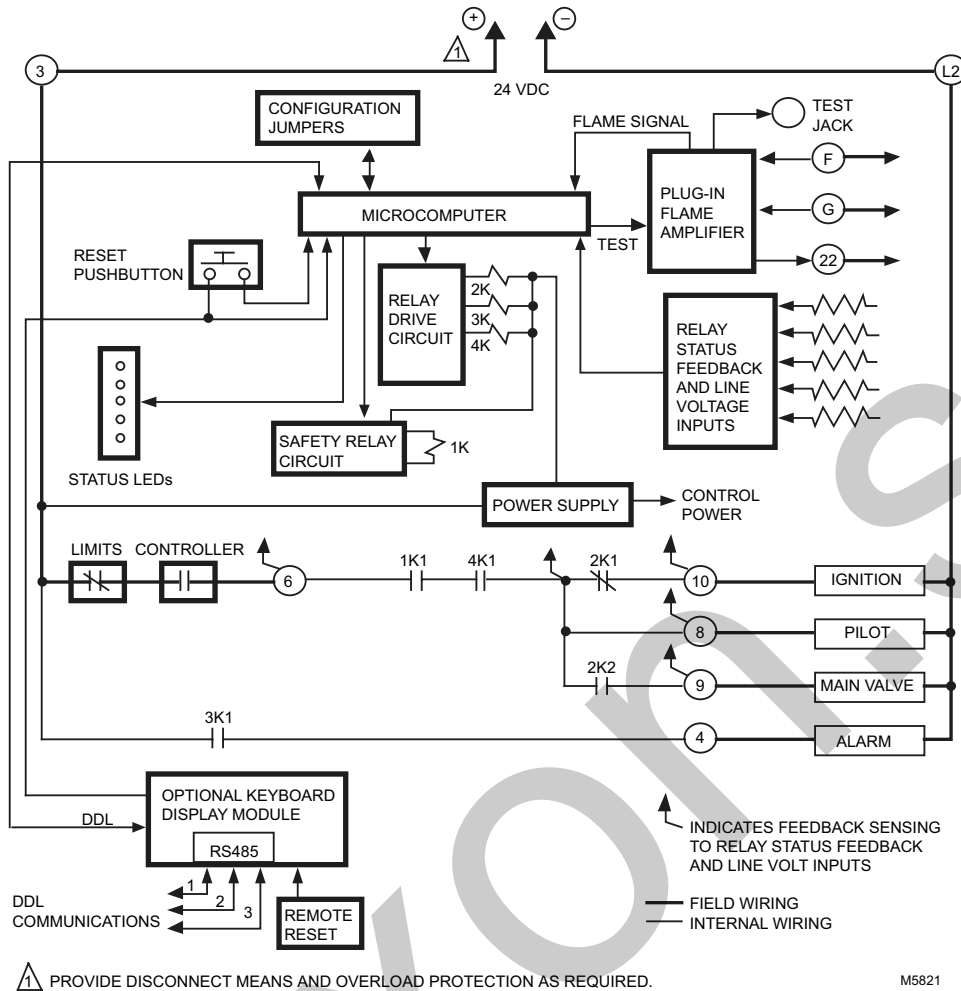

Fig. 6. Internal block diagram of the RM7824A (see Fig. 6 for detailed wiring instructions).
2. Wiring connections for the RM7824A are unique; therefore, refer to Fig. 6 or the correct specifications for proper subbase wiring.
- b. For proper subbase wiring, refer to Fig. 6.